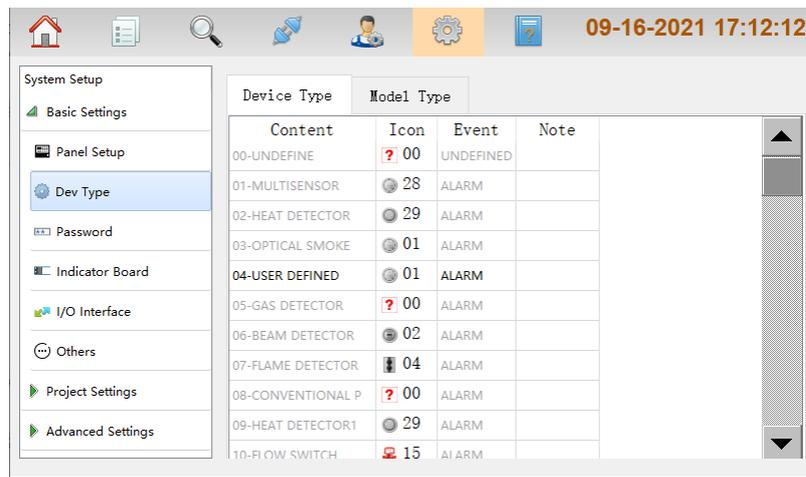
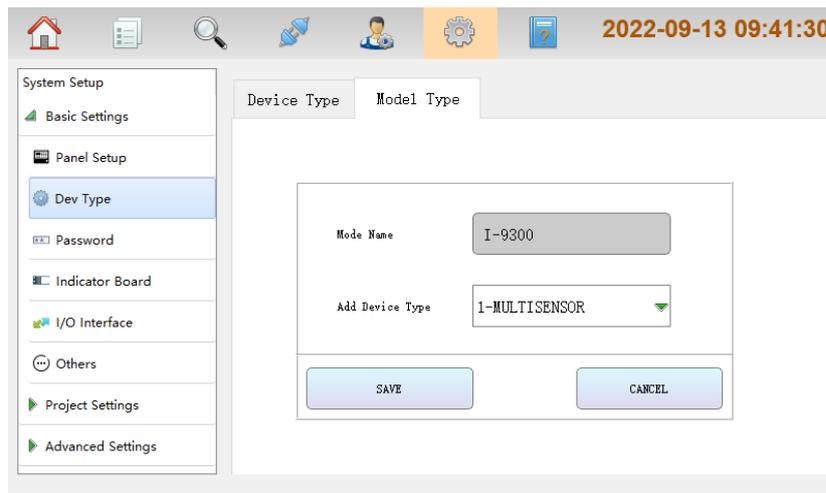

Fig. 4.2.1
Fig.4.2.3
- **Device Type:** clicking Device Type in Basic Settings menu as shown in Fig. 4.2.1, users can set the name and picture of the device type. Only the highlighted device types can be defined. The gray ones cannot be defined. Clicking Model Type as shown in 4.2.2, users can define the device type of a specific model. For example, I-9300 Addressable Input Module can be set as FLOW SWITCH, ZONE VALVE etc. Clicking Add, choosing the device type and clicking Save can add device types, as show in Fig 4.2.3.